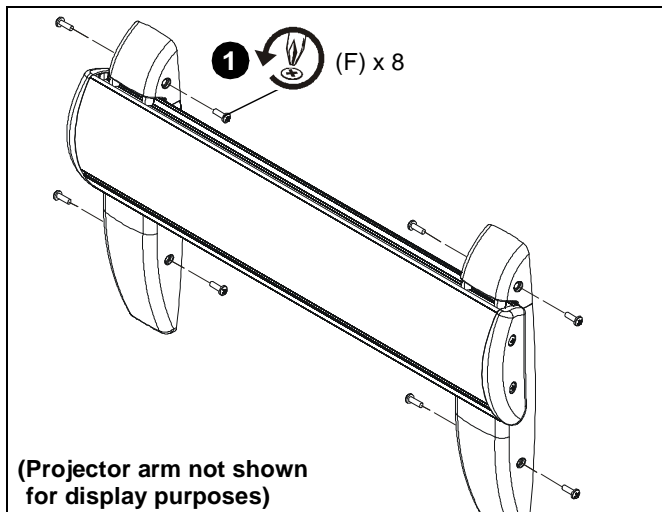

Figure 40
1. Remove eight #8-32 x 1/2" Phillips pan machine screws (F) from wall bracket covers. (See Figure 40)